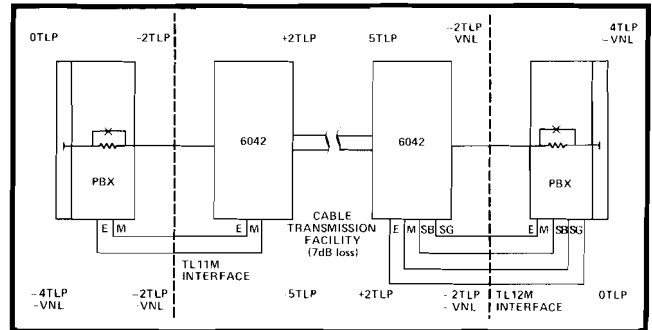

figure 2. Typical short-haul tie-trunk circuit using 6042 modules.
2.01 The 6042 Network Terminating Module provides transmission interface and signaling conversion between a 4wire metallic facility using DX signaling and a 2wire PBX tie trunk using E&M signaling (see figures 2 and 3). This single module combines the functions of a 4wire line amp, a DX-to-E&M signaling converter, and a terminating set. In applications where the serving telephone com-